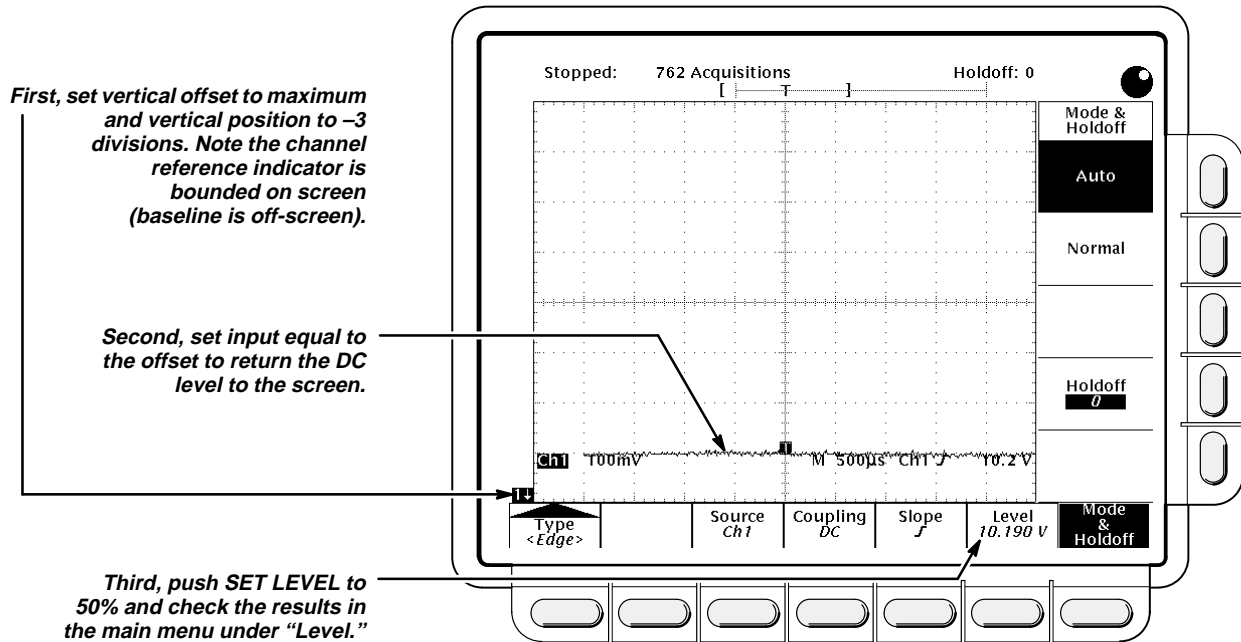

Figure 1-17: Measurement of Trigger-Level Accuracy
- CHECK that the **Level** readout in the main menu is within  $9.863$  V to  $10.137$  V, inclusive (see Figure 1-17).
- CHECK that the **Level** readout in the main menu is within 9.863 V to 10.137 V, inclusive (see Figure 1-17).